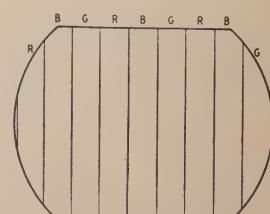

Fig. 3—Pattern at thrice line frequency.
4. The generator may be adjusted to produce several rainbows (see Fig. 3) for showroom demonstrations of color TV sets.